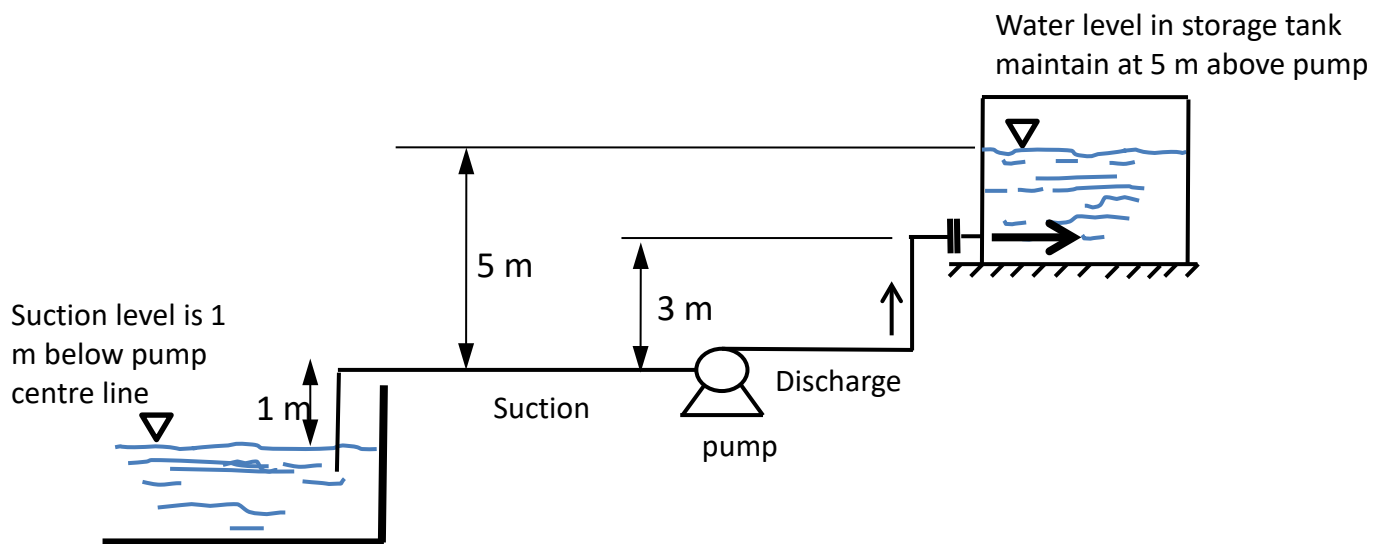

Figure 4
- 4 (a) In a desalination plant, a mix-flow pump draws seawater from the coast to a storage tank as shown in Figure 4. The piping system comprises of the following: